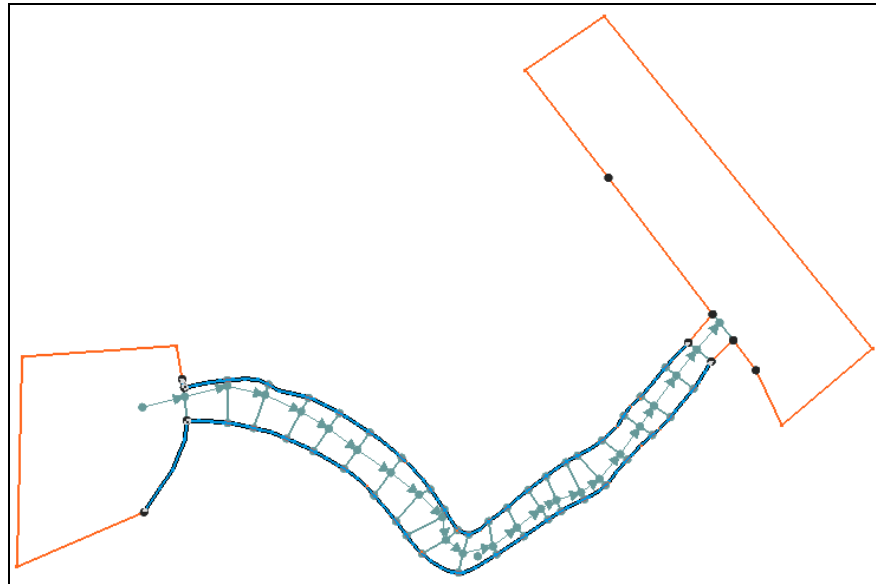

Figure 11 Selected HX arcs
2. Select the **Select Feature Arc**  tool and, using the *Shift* key, select the two arcs running along both banks of the channel and the single arc on each side of the upstream (left) end of the model (Figure 11). The arc on the top left side of the channel is very short because the terrain in that region is very steep, and flow will not enter the domain beyond the extent of that arc.